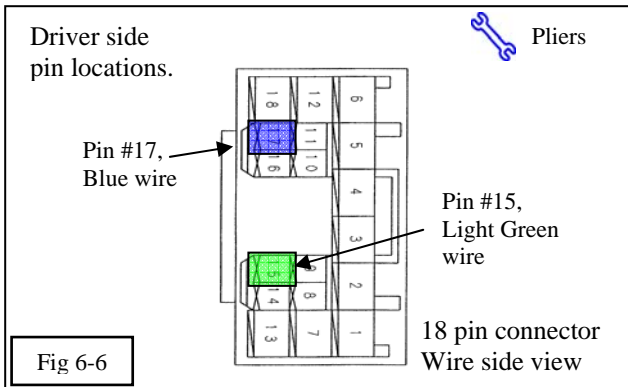

Fig. 6-6
(1) There is more than one **BLUE** wire on the 18 pin connector, make sure you have the correct wire, Pin 17, before installing the scotch lock.
(2) Locate the **BLUE** wire, pin 17, on the 18 pin connector (Fig. 6-6).